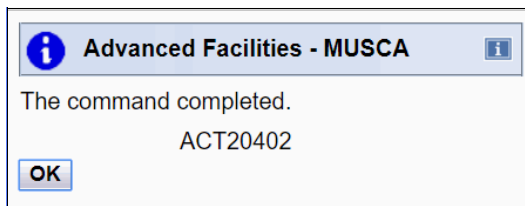

Figure 6-19 OSA/SF on the HMC: message when activation completed
15. When the activation is successfully, the window that is shown in Figure 6-19 is displayed. Click **OK** to complete the process.